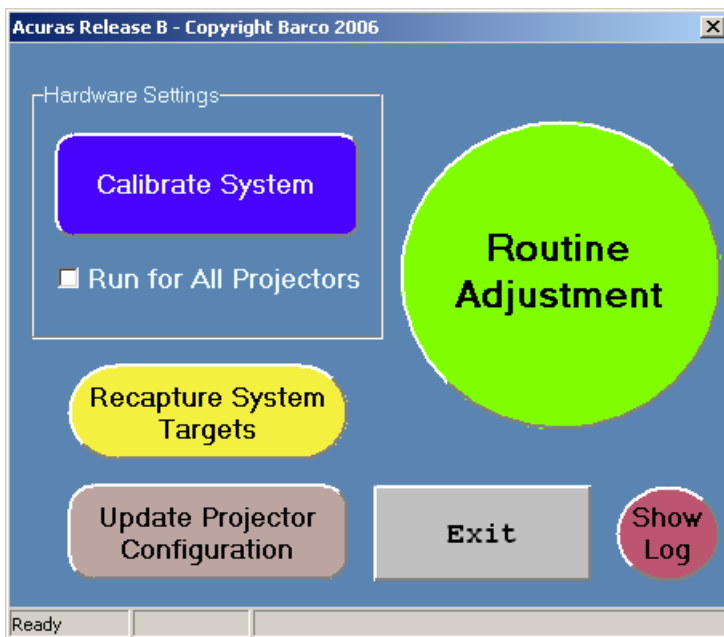

Figure 26. ACURAS User Interface
Figure 26 shows the ACURAS user interface.
- 1 Press the **Update Projector Configuration** button on the ACURAS user interface (see Figure 26).